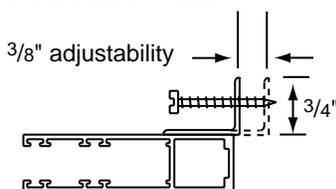

Figure 8
- ⑥ **For Inside Mount**—Loosen adjustable channel mounting angle fasteners, and slide the angles out until they meet the jamb (see Fig. 8). Fasten with #8 x 3/4" screws. Re-check the straightness of each side channel, then tighten the angle to side channel screws.